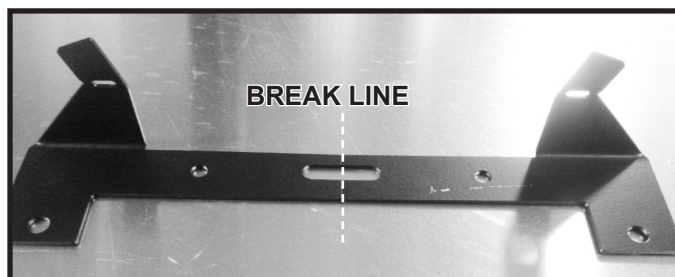
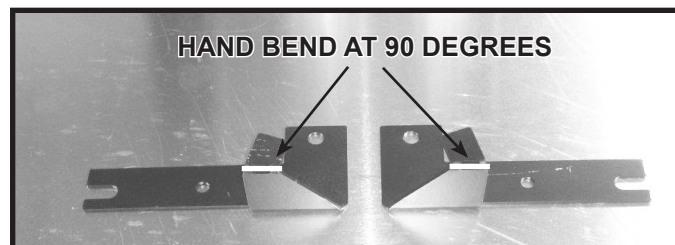

Figure 10.10 Barrier Glass Support
Figure 10.12 Form Barrier Glass Supports
5. Break the barrier glass support into two pieces as shown in Figures 10.10 and 10.11. Make the hand bends as shown in Figure 10.12 to form each of the barrier glass supports.